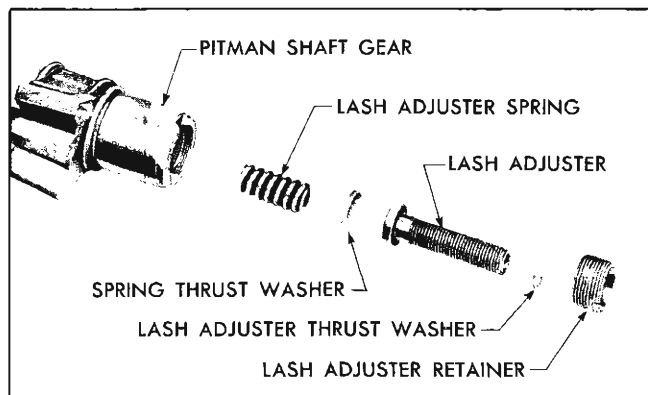

Fig. 9A-13 Parts in End of Pitman Shaft Gear
**NOTE:** Do not disassemble pitman shaft and component parts as these are serviced as an assembly. See Fig. 9A-13.